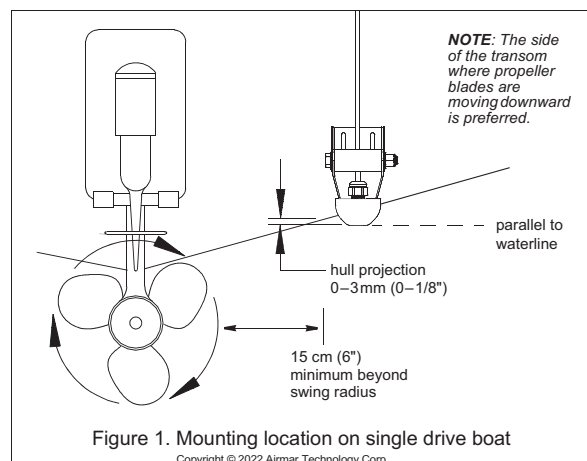
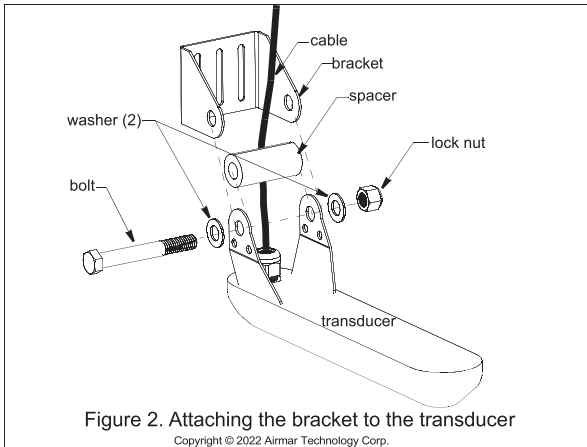

Figure 1. Mounting location on single drive boat
Figure 2. Attaching the bracket to the transducer
- Mounting the sensor on the side of the transom where the propeller blades are moving downward is preferred (Figure 1).
- **Single drive boat**—Mount a minimum of 15cm (6") beyond the swing radius of the propeller (Figure 1).
1. Slide a washer onto the bolt (Figure 2).
1. At the selected location position the transducer, so it projects 3mm (1/8") below the bottom edge of the transom (Figure 1).
3. Reinstall the transducer to the bracket (Figure 2).
1. Using the vertical adjustment space in the bracket slots, slide the assembly up or down until the bottom inside corner of the transducer projects 0–3mm (0–1/8") below the bottom of the hull (Figure 1). When you are satisfied with the position of the transducer, tighten the three bracket screws. For clear access to the screws, remove the transducer assembly from the bracket (Figure 2). *When reattaching, be sure to include the spacer.*